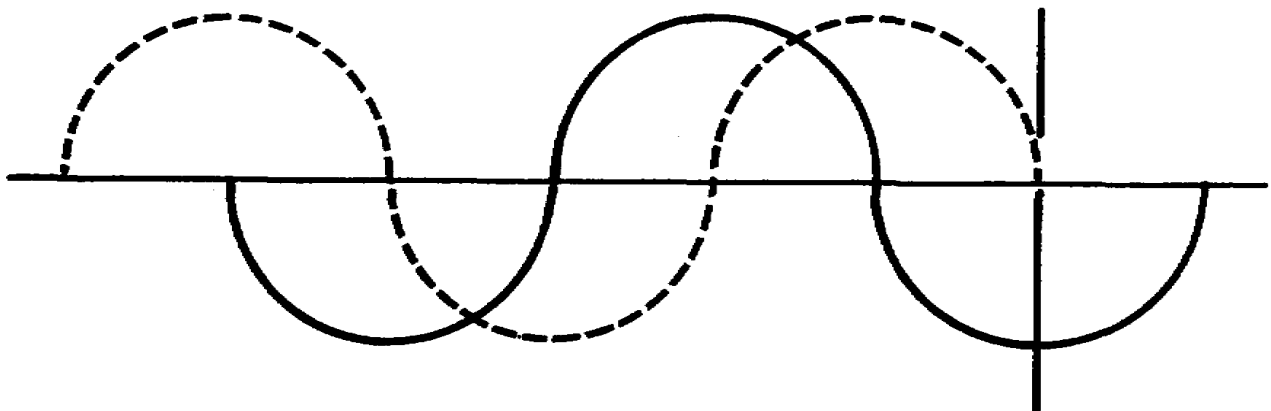
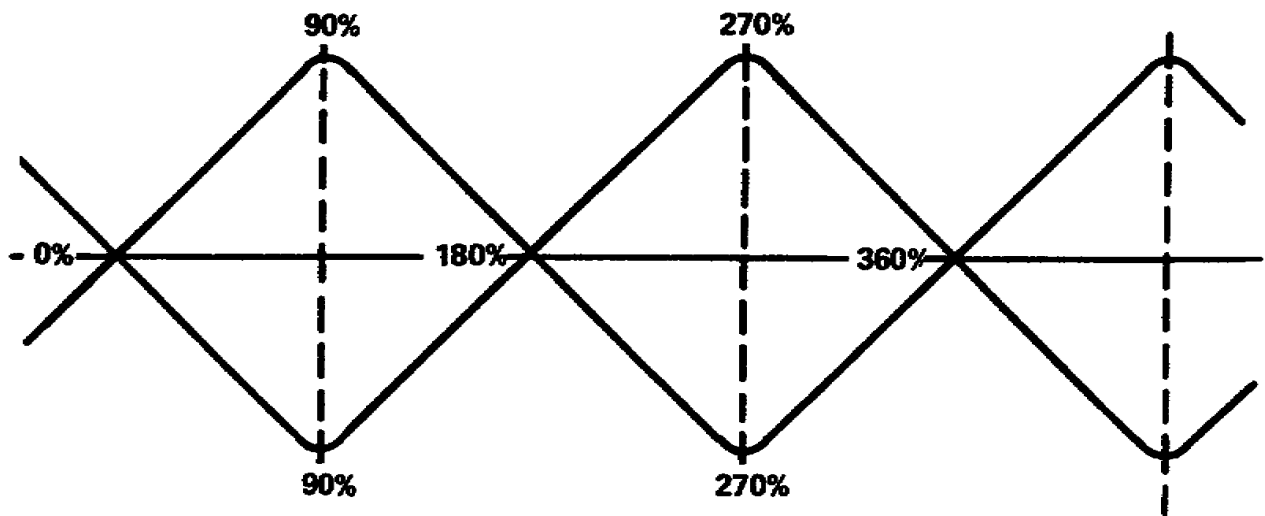

Figure 1-17. Sound waves partially “out of phase”
Figure 1-18. Sound wave 180° “out of phase”
(1) People phase stereo speakers to get full volume. Both speakers push or pull (compress or rarefy) air at the same time.
(2) Rear and front speakers in a car face each other. For full volume the rear speaker pushes while the front speaker pulls. Both speakers are said to be “in phase”, with each other.
b. Interference. In interference, there is no complete union of waves because the compressions and rarefactions occur at different times (fig 1-17). They are occurring off from each other, causing interference. It is said that these sound waves are “out of phase.” The effect of interference is a smaller volume of air moving, hence a loss of overall volume of sound. Sound waves “out of phase” 180° , result in complete cancellation of sound (fig 1-18).